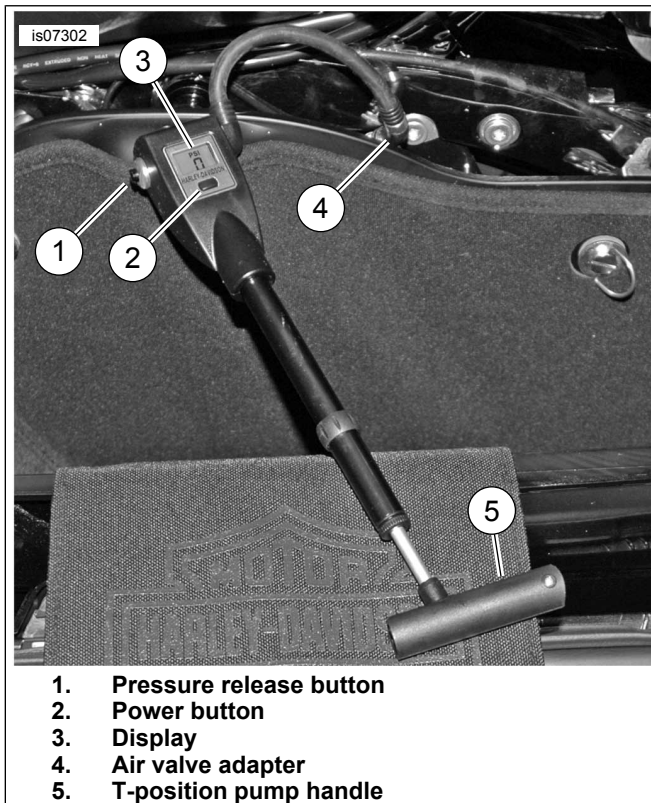

Figure 2. Touring Digital Suspension Air Pump
- See Figure 2. To turn the display ON, press the power button (2). To turn the display OFF, press the power button.
- The pump will display pressure in PSI or KPa. To toggle the unit of measure, push the power button (2) while the display is ON and hold it for 5 seconds.
1. Remove cap from air suspension air valve and connect the pump air valve adapter (4) to the air valve as shown in Figure 2.
2. Press the power button (2) to turn the display ON.
3. To increase pressure, pull the handle (5) all the way out and rotate the handle to the T-position. Operate the air pump handle until the desired system pressure is indicated on the display (3).